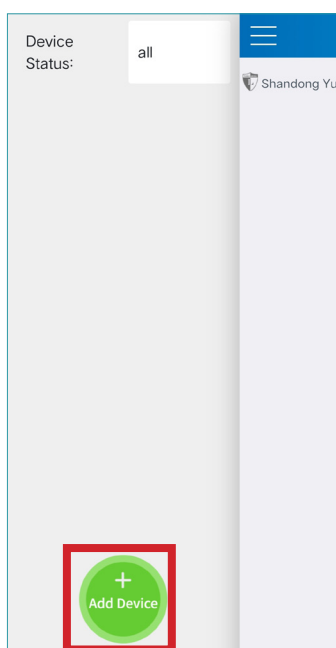
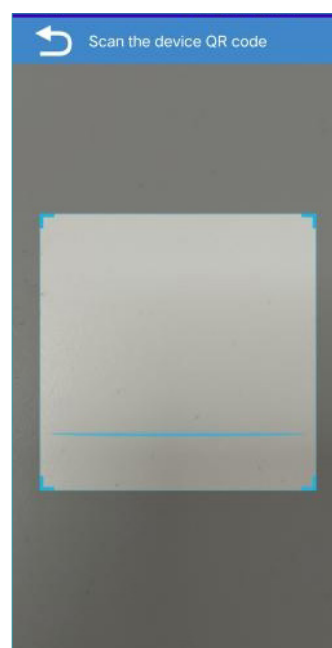

Figure 17
Figure 18
3. Click the "Add Device" button at the bottom (as shown in Figure 17) to open the scanning interface (as shown in Figure 18) and prepare to add the device.